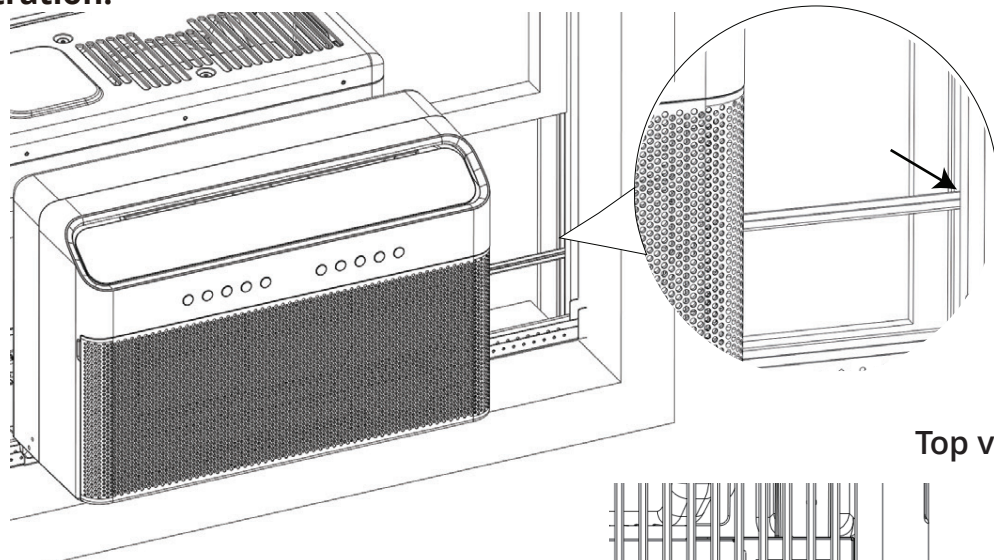
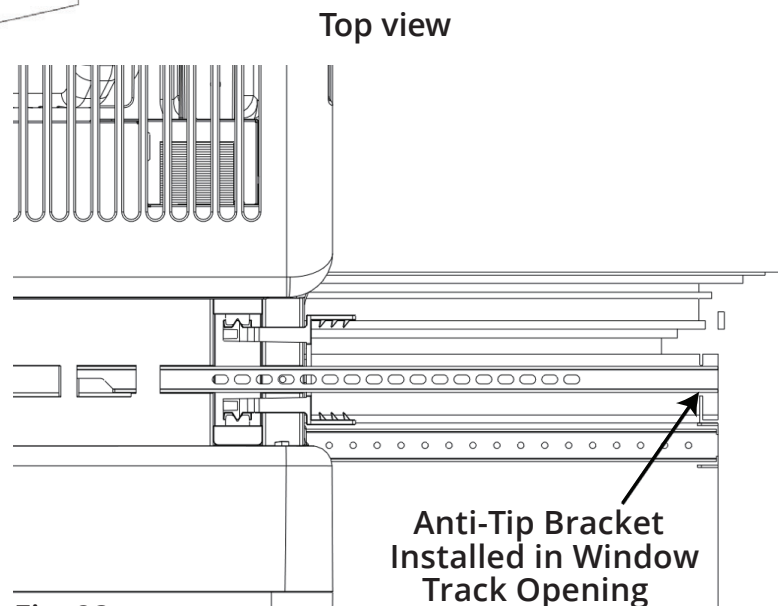

Fig. 22
Fig. 23
**NOTE:** Fig. 22 & Fig. 23 below are to show how the Anti-Tip Bracket is to be installed in the window track. Note: the Side Arm Foam installed in the previous steps is not shown in this illustration.